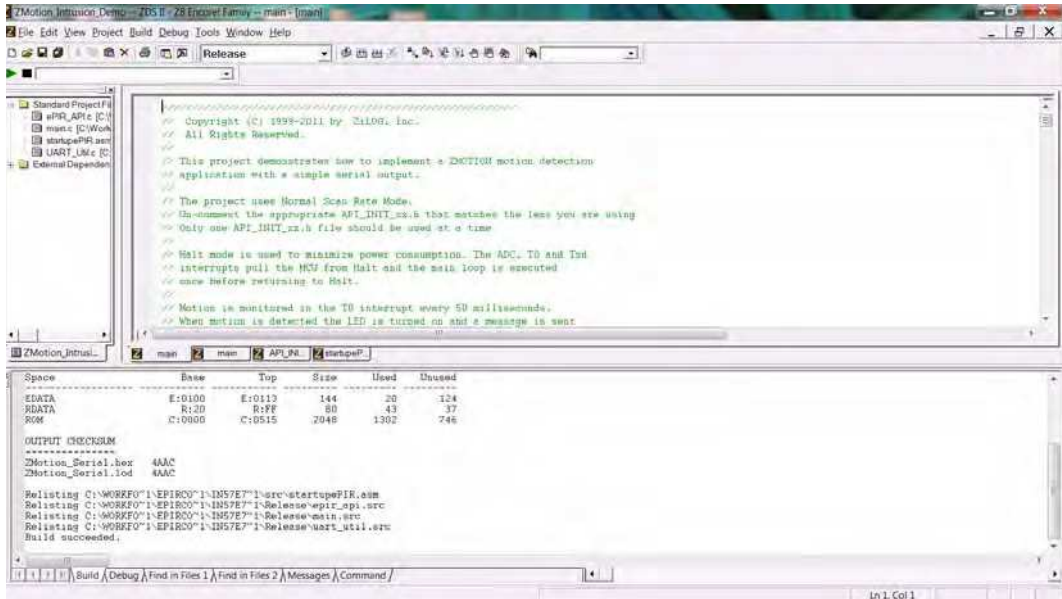

Figure 5. Building the ZMOTION\_Intrusion\_Demo project in ZDS II
3. Click the **Rebuild All** icon to build the project. The build output should not indicate any errors. If you receive errors, try reloading the projects from the original Application CD and ensure that the folders are not set to **Read Only**. See Figure 5 for an example; Figure 6 indicates the location of the **Rebuild All** icon in the ZDSII menu bar.